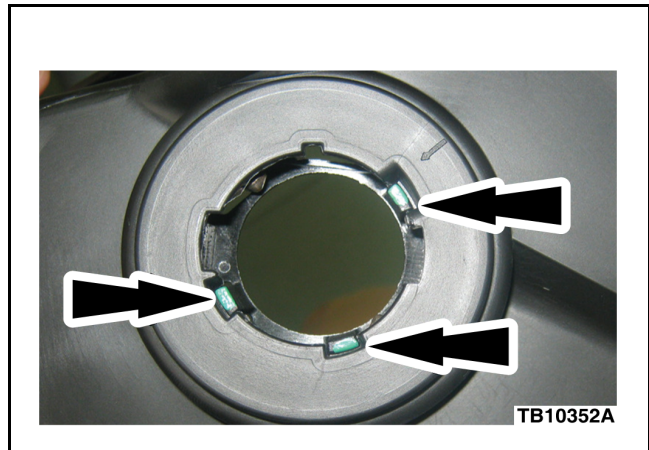

Figure 7 - Article 13-9-2
9. Guide the contact ring back into the headlamp assembly, snap the contact ring into the hole of the turn signal. (Figure 7)